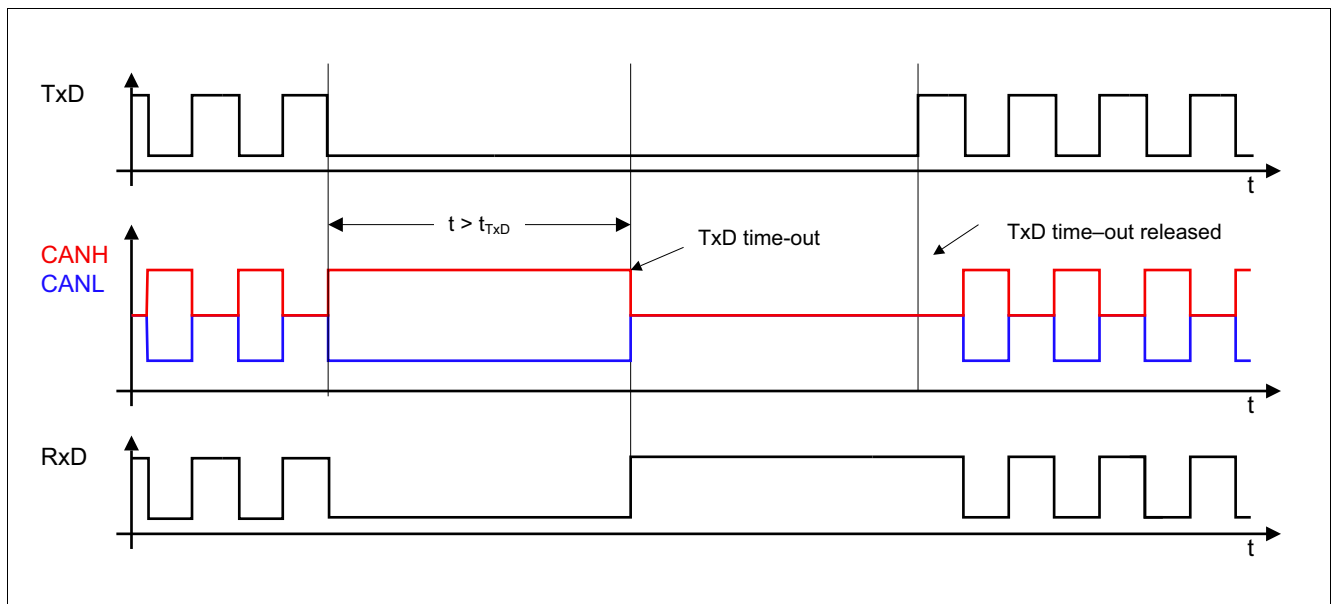

Figure 10 TxD time-out function
In Normal-operating mode, a logical “low” signal on the TxD pin for the time  $t > t_{TxD}$  enables the TxD time-out feature and the TLE9250X disables the transmitter (see Figure 10). The receiver is still active and the data on the bus continues to be monitored by the RxD output pin.
**Figure 10** illustrates how the transmitter is deactivated and activated again. A permanent “low” signal on the TxD input pin activates the TxD time-out function and deactivates the transmitter. To release the transmitter after a TxD time-out event, the TLE9250X requires a signal change on the TxD input pin from logical “low” to logical “high”.